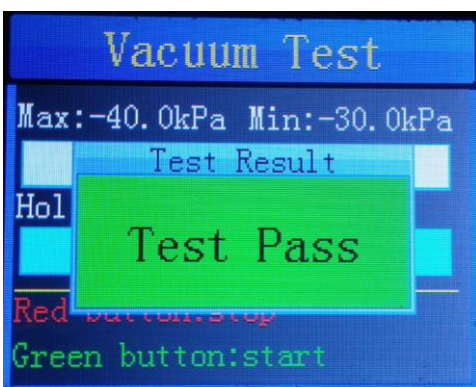
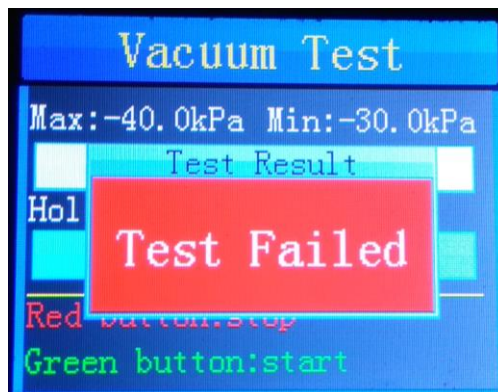

Figure 6
Figure 7
6. "Test Pass" will be displayed when the test passes (Figure 6) and "Test Failed" will be displayed when the test fails (Figure 7).